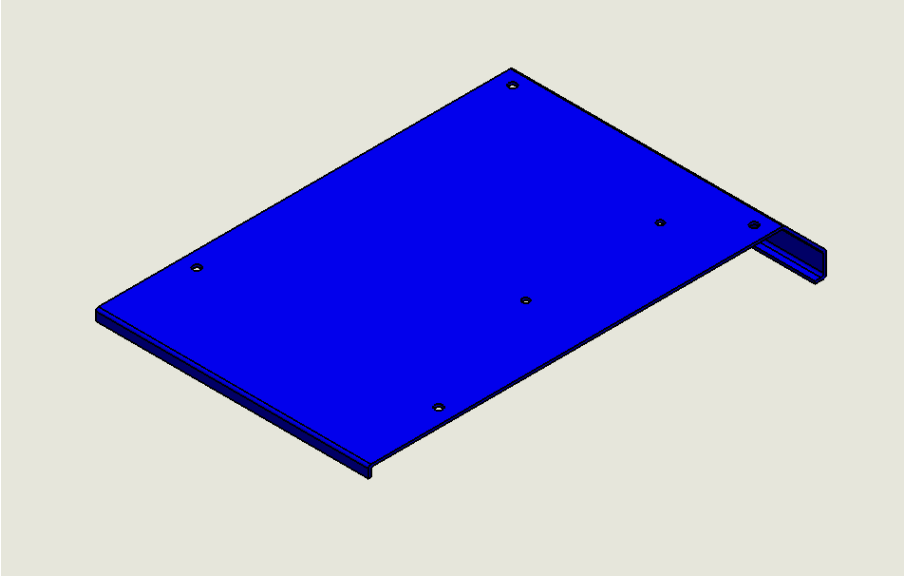

Fig. 4 - Isometric view
3. To install the tank support 2 holes to be drilled into the front panel **(c)** (see Fig. 4).